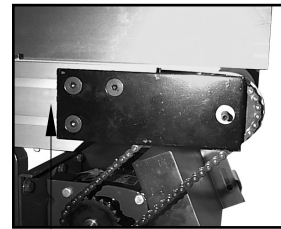

Figure 4
- 7) Mark edge of plate against the frame on the drive end side (*see Figure 4*) (for adjustment during reassembly).
- 8) Loosen the three Allen head bolts from drive side mounting plate (*see Figure 4*) (allows plate to move towards center of conveyor).